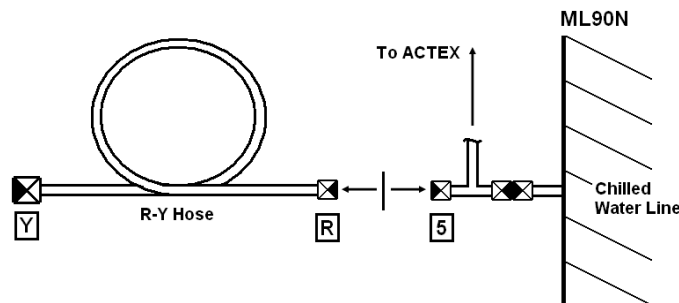

Figure 5-10.- R-Y Hose removal.
1. Disconnect R-Y Hose from Chilled Water Line Tee QD (#5) (see fig 5-10) and cap both Red and Yellow QDs of R-Y Hose